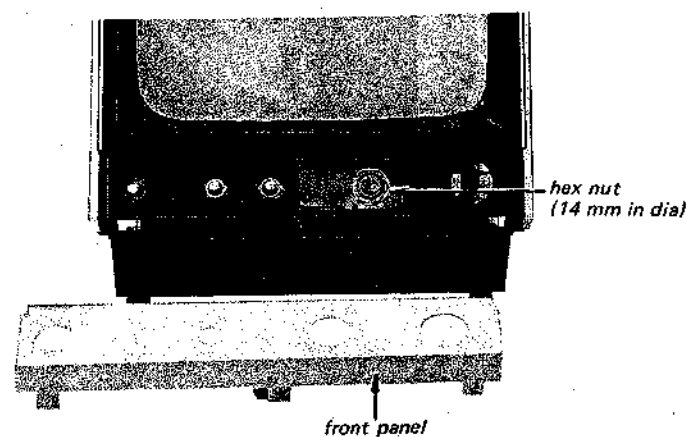

Fig. 2-17.
5. Remove a hex nut (14 mm in dia) with pliers as shown in Fig. 2-17.